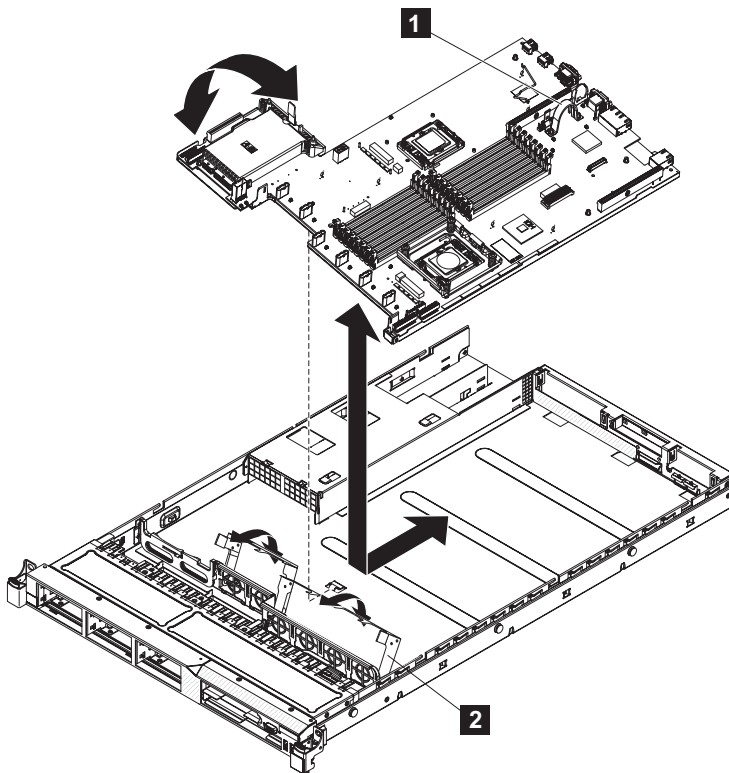

Figure 280. Removing and replacing the SAN Volume Controller 2145-CF8 system board
1. Place the side of the system board assembly that is farther from the power supply units beneath the catches. Lower the opposite side of the system board until it is flat in the chassis. Align the rear connectors with the holes in the rear of the server and slide the system board towards the rear of the node, as shown in Figure 280.